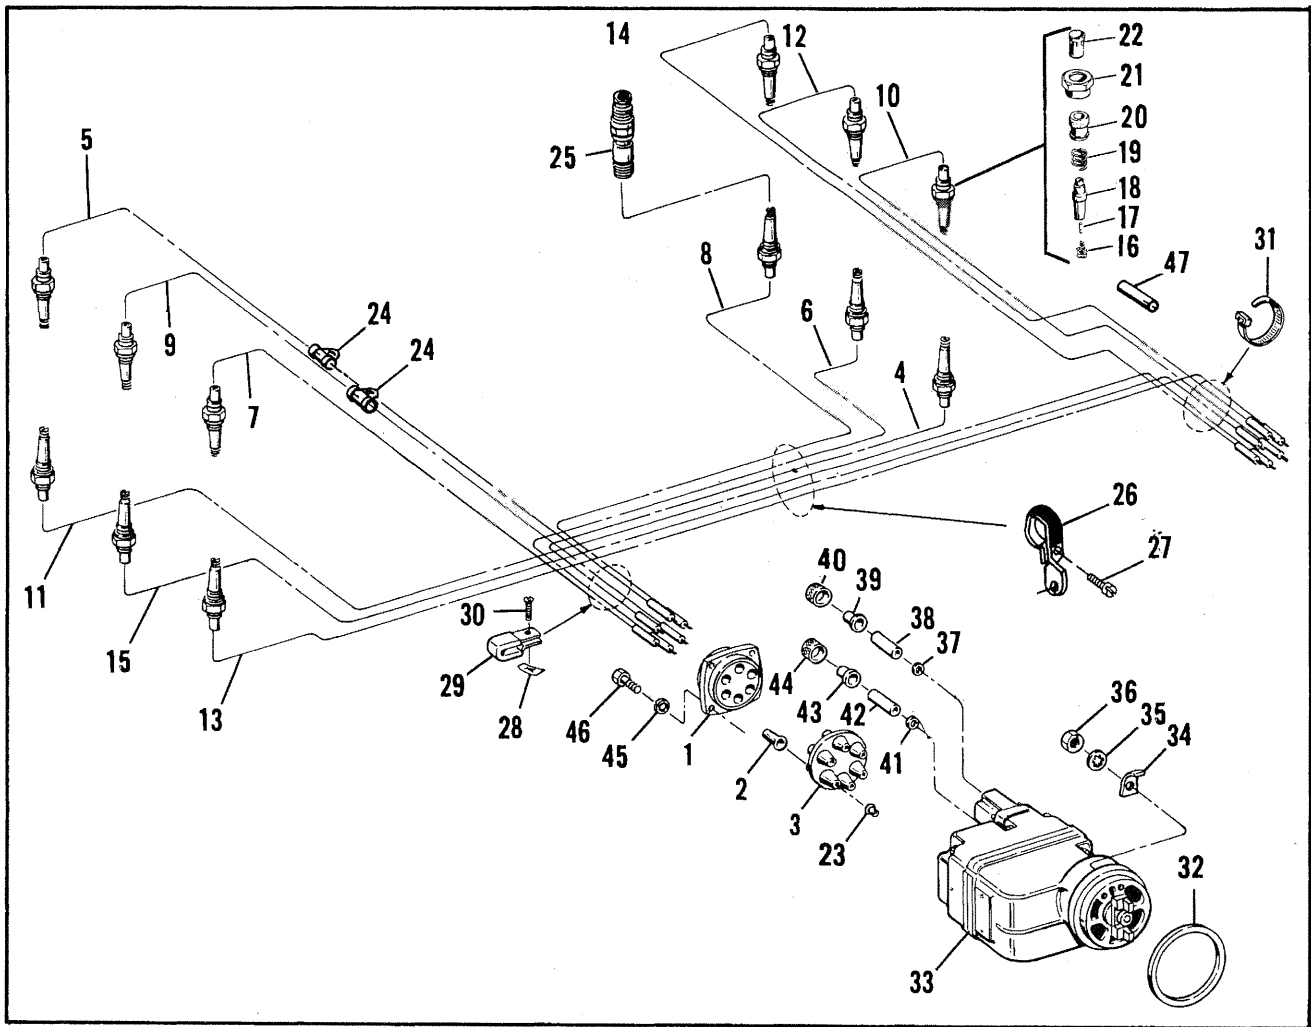

FIGURE 5-12. EXPLODED VIEW OF TYPICAL IGNITION SYSTEM.
**5-38. IGNITION CABLES.** Normally, all ignition cable assemblies or harness assemblies should be replaced at each overhaul. If the high tension outlet plates are in good condition, new cable assemblies and grommets may be installed on them and the cable ends secured to the grommet of each harness with a brass washer and a cable piercing screw, installed as in the original assembly. If only the cable assemblies and grommets are to be replaced, leave the cable clamping bracket on the original cables of each harness, and detach all cables from the high tension outlet plate by removing the cable piercing screws from their ends in the plate grommet. When the coupling nuts are unscrewed the cables may be withdrawn and the grommet removed from the plate. Observe the "1" mark on the exterior side of each outlet plate adjacent to the No. 1 cable outlet hole. Refer to Figure 5-12 and observe that the numerals appearing at magneto ends of the high tension cables correspond to the consecutive order of outlet plate
cable holes, while the relative positions of spark plug elbows indicate the installed positions of the cables. Install cable assemblies (3 through 14, Figure 5-12) in the indicated positions in the two outlet plate and grommet assemblies (1 and 2), starting with the proper No. 1 cable assembly in the marked hole of each plate, and proceeding in consecutive order around the plates. As each cable end is inserted, screw in the cable coupling nut (33), and tighten it; then place one of the brass washers (16) and a cable piercing screw (17) at the grommet hole, and turn the screw in firmly but not enough to cut the wire strands. When all cables have been attached to the two outlet plates, locate a clamping bracket (18) on the proper cables of each harness in the same position as on the original cables, and install a rivet (19) to secure it. Parts indexed 21 through 32 will be installed at final assembly. This group should be collected and ready for installation. Parts indexed 33 through 37 are installed on the aircraft ignition switch wires. If replacement of spark plug ends is necessary, proceed with disassembly as indicated (Items 38 through 45) for Slick Harness, and (Items 46 through 52) for Bendix Harness.